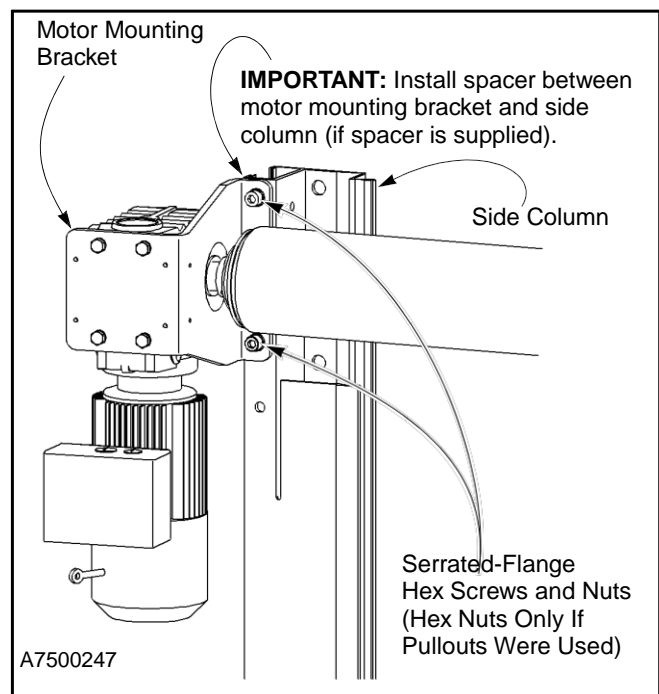
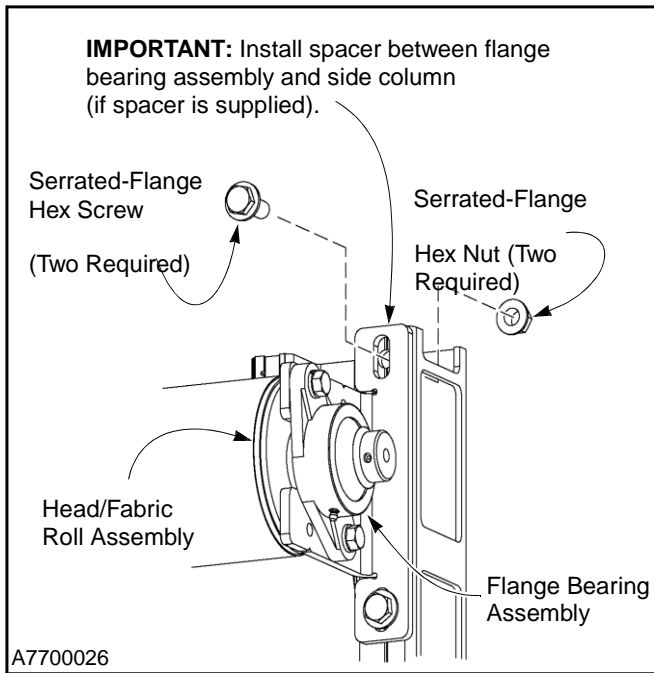

Figure 18
Figure 19
4. Position the head assembly in front of the pair of holes near the top of each side column. Align the holes in the motor mounting bracket with the holes in the side column. (See Figure 18.)
**IMPORTANT:** If your door is oversized, two large spacers were included in the small parts carton. Failure to install a spacer between the motor mounting bracket and flange bearing assembly could result in damage to the door. (See Figure 18 and Figure 19.)
5. Attach the motor mounting bracket to the side column using two 1/2-13 x 11/4-in. serrated-flange hex screws and nuts (or two 1/2-13 x 2-in. screws and nuts if spacers are required, or nuts only if 6-in. screws were installed earlier). DO NOT tighten the hex nuts at this time. (See Figure 18.)
6. Slide the flange bearing assembly over the drum shaft at the non-drive end of the head/fabric roll assembly. (See Figure 19.)
**IMPORTANT:** If your door requires spacers, be sure to install a spacer between the flange bearing assembly and the side column. (See Figure 19.)